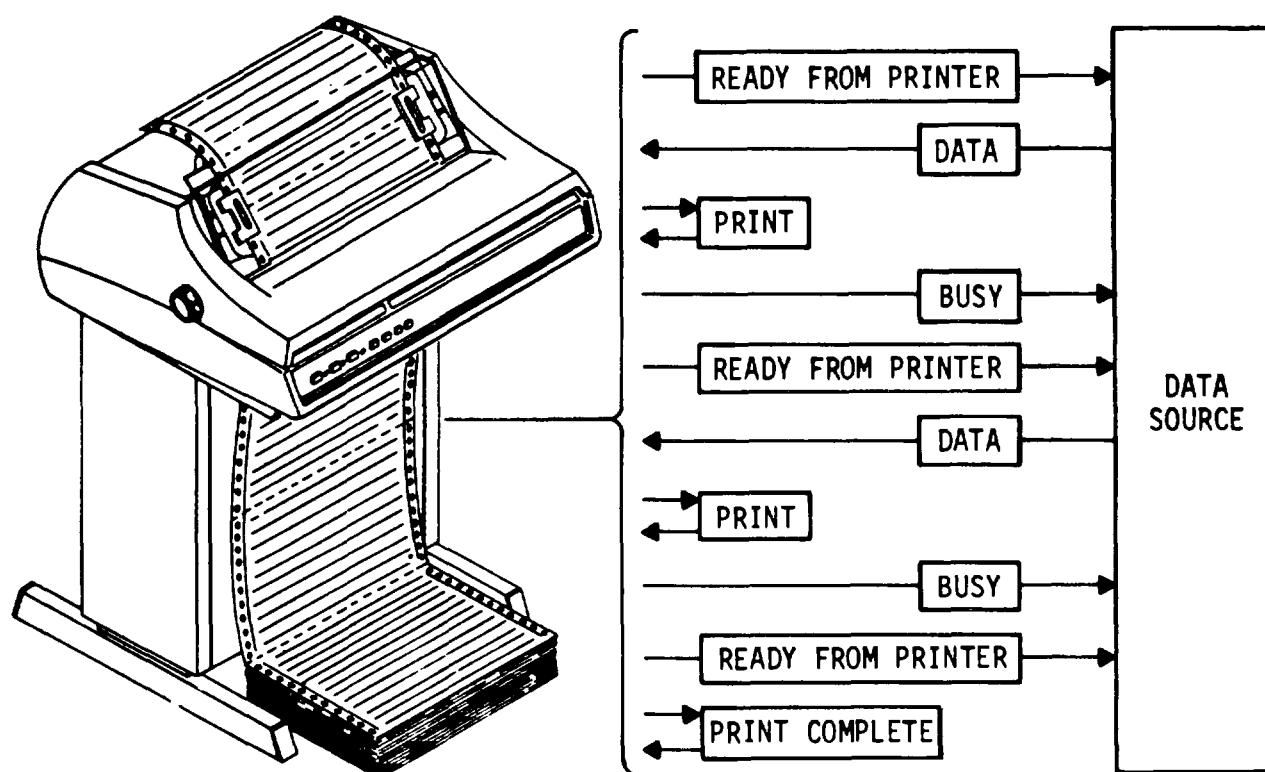

Figure 1-4. Functional Principles of Operation
The printer sends a Ready From Printer (RFP) signal to the data source that it is ready to print (fig. 1-4). The data source begins sending character line sets. The printer stores one line set at a time in its memory. At the same time, it sends a Full Count (FCNT) signal to the data source that its line set is complete. It then prints the line. Immediately, it sends an RFP signal to the data source, and starts the cycle over again. This continues until the printer receives no new data. It then generates a Print Complete (PC) signal and stops printing.